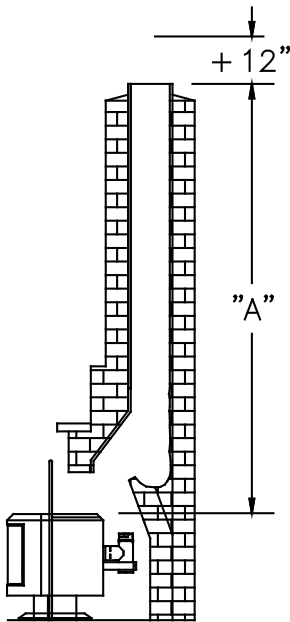

Figure 18
3. Measure and record the dimensions as shown in (Figure 18).